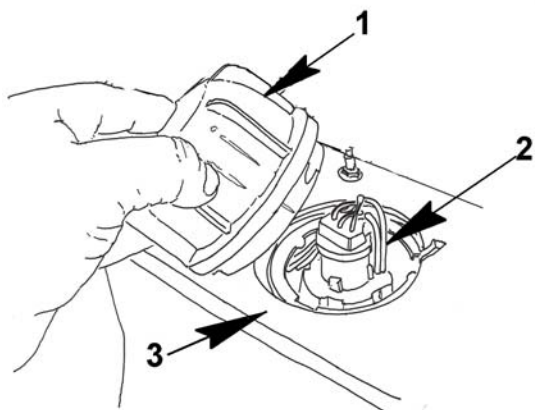

Figure 49 Directional Bulb Access
2. Locate the outboard socket cover (Figure 49, Item 1); this will be the directional socket on each side of the chassis.
3. Twist the socket cover to (Figure 49, Item 1) remove.
4. Locate the socket and bulb assembly (Figure 49, Item 2), twist and pull up to remove.